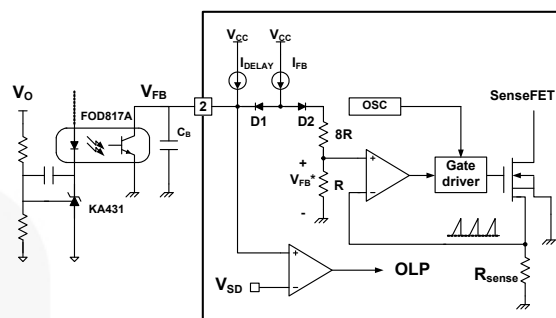

Figure 16. Pulse Width Modulation (PWM) Circuit
2. Feedback Control: FSQ500L employs current mode control, as shown in Figure 16. An opto-coupler (such as the FOD817A) and shunt regulator (such as the KA431) are typically used to implement the feedback network. Comparing the feedback voltage with the voltage across the R_{sense} resistor makes it possible to control the switching duty cycle. When the reference pin voltage of the regulator exceeds the internal reference voltage of 2.5V, the opto-coupler LED current increases, pulling down the feedback voltage and reducing the duty cycle. This typically happens when the line input voltage increases or the output load current decreases.
2.1 Pulse-by-Pulse Current Limit: Because current mode control is employed, the peak current through the senseFET is limited by the non-inverting input of PWM comparator (V_{FB}^*), as shown in Figure 16. Assuming that 225 μ A current source flows only through the internal resistor ($8R + R = 12k\Omega$), the cathode voltage of diode D2 is about 2.7V. Since D1 is blocked when the feedback voltage (V_{FB}) exceeds 2.7V, the maximum voltage of the cathode of D2 is clamped at this voltage, clamping V_{FB}^* . Therefore, the peak value of the current through the senseFET is limited.